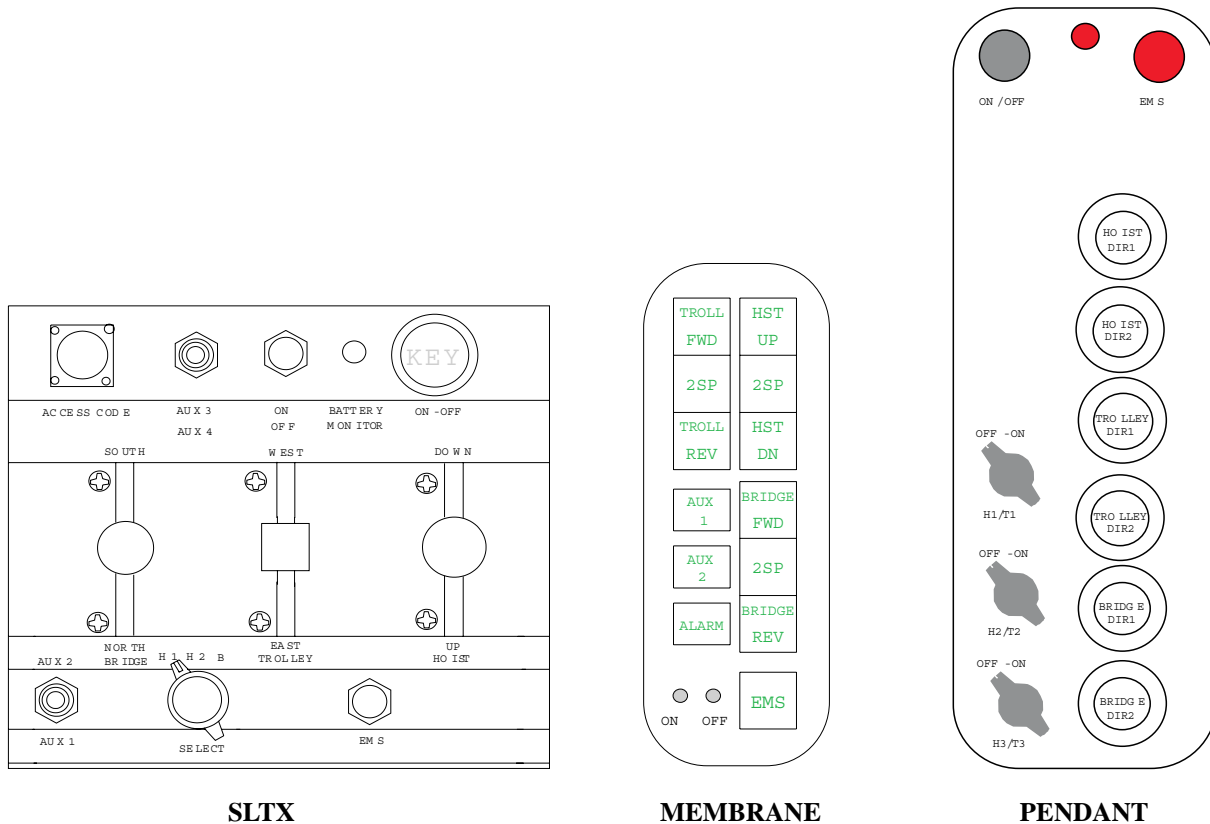

Figure 4-1. Transmitter Type
1. Determine the type of transmitter you have with your unit. SLTX, membrane or pendant as shown in Figure 4-1. (For custom or special transmitter refer to custom documentation).